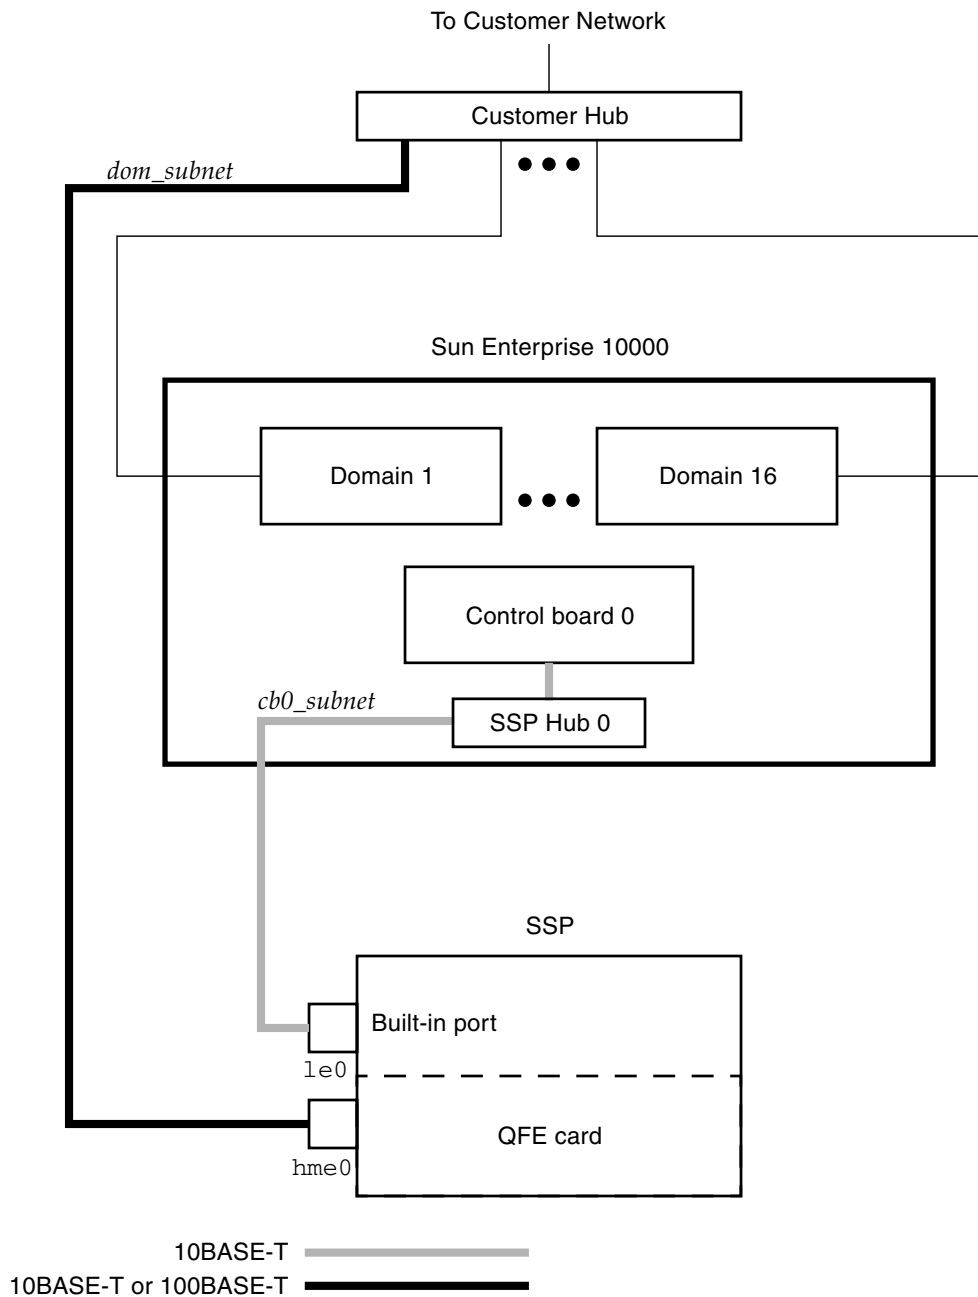
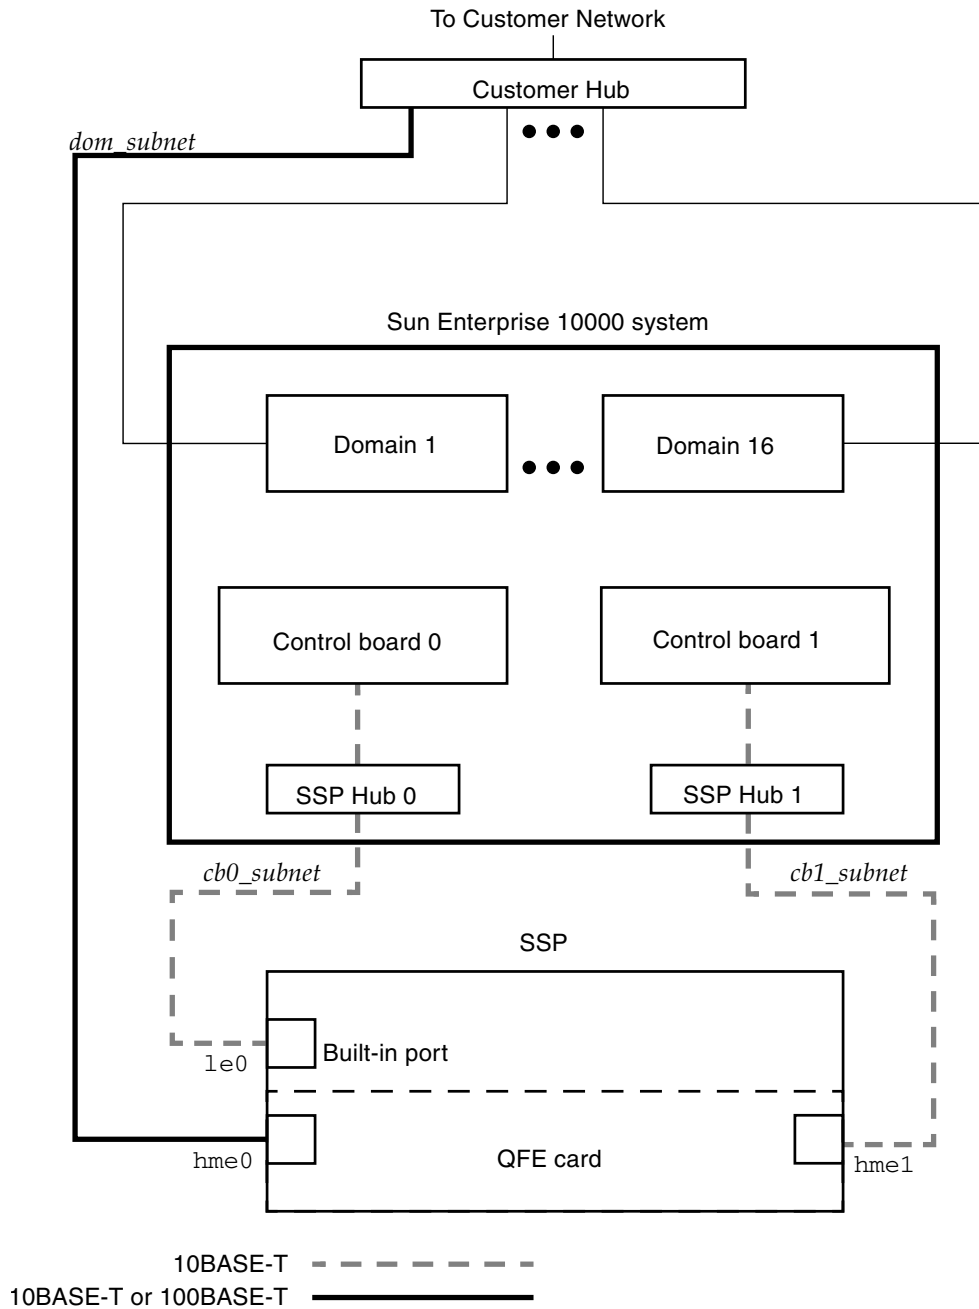
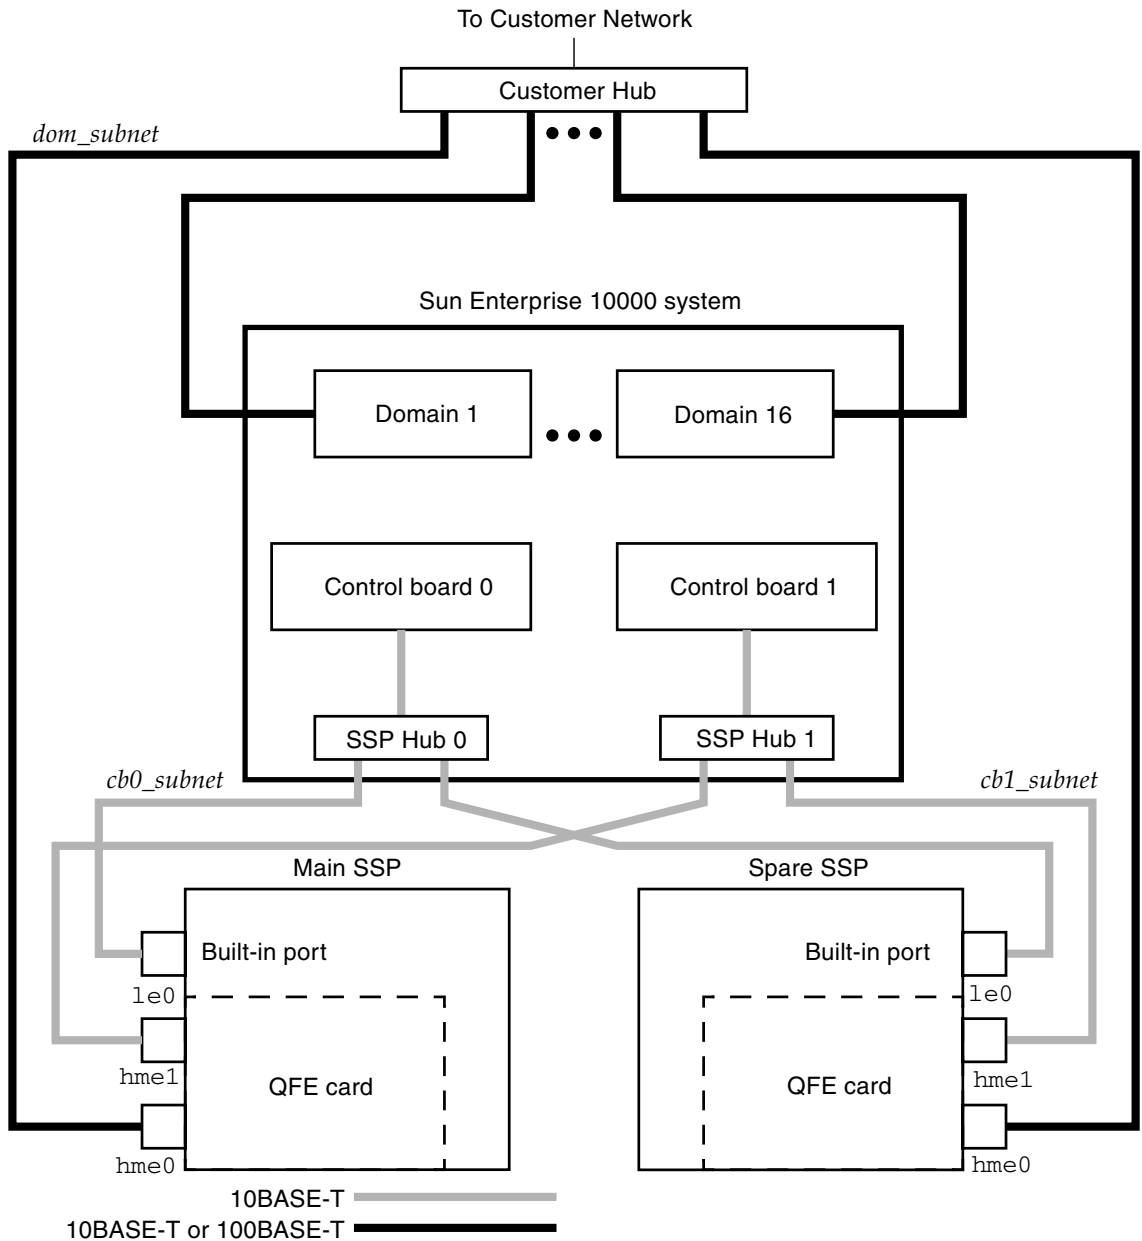

FIGURE 4-1 Network Configuration—Base
FIGURE 4-2 Network Configuration With Redundant Control Board
FIGURE 4-3 Network Configuration With Redundant Control Board and Spare SSP
FIGURE 4-1, FIGURE 4-2, and FIGURE 4-3 illustrate three possible network configurations. All configurations use the hubs that are packaged with the control boards during manufacturing and the SSP that is pre-configured with an additional quad Fast Ethernet card. However, customer networks and hubs are the site owner's responsibility.
- Use TABLE 4-1 with FIGURE 4-1.
- Use TABLE 4-2 with FIGURE 4-2.
- Use TABLE 4-3 with FIGURE 4-3.
TABLE 4-1 Software Configuration Setup Parameters for FIGURE 4-1
TABLE 4-1 Software Configuration Setup Parameters for FIGURE 4-1 (*Continued*)
TABLE 4-2 Software Configuration Setup Parameters for FIGURE 4-2
TABLE 4-2 Software Configuration Setup Parameters for FIGURE 4-2 (*Continued*)
TABLE 4-3 Software Configuration Setup Parameters for FIGURE 4-3
TABLE 4-3 Software Configuration Setup Parameters for FIGURE 4-3 (*Continued*)